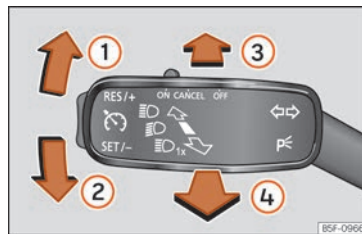

Fig. 98 Turn signal and main beam lever.
- From the base position, press the turn signal and main beam headlights lever forwards » » » **Fig. 98 ③**
- **OR:** while the main beam is on, pull the turn signal light and main beam headlights lever forwards » » » **Fig. 98 ④**.